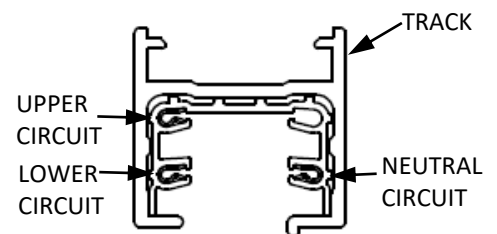

Fig. 5
B. ADVENT TRACK Fig. 5
**B. RAIL ADVENT Fig. 5****POUR ALIMENTER À PARTIR DU CIRCUIT INFÉRIEUR**